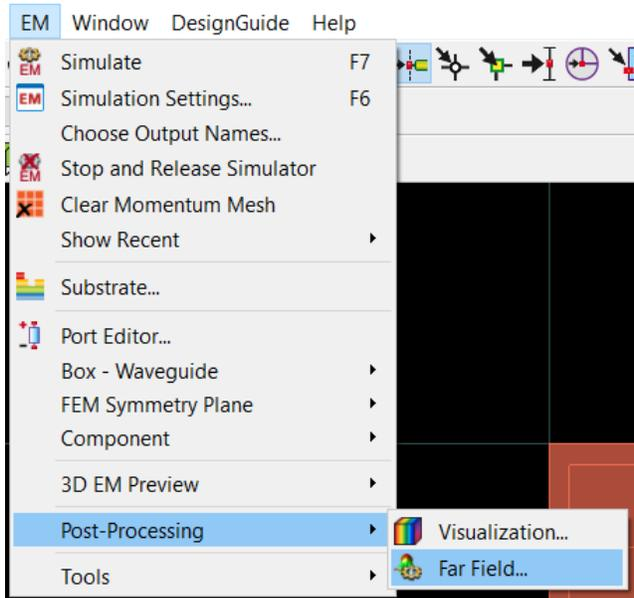

Figure 33. Opening the far field display
- For the far field antenna pattern, go to **EM > Post Processing > Far Field**. This is shown in Figure 33. The visualization will open in another window.